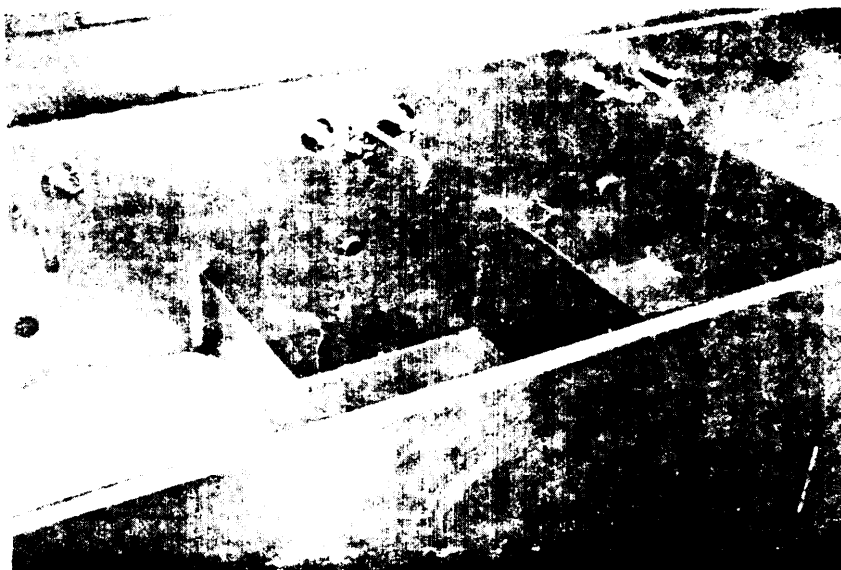
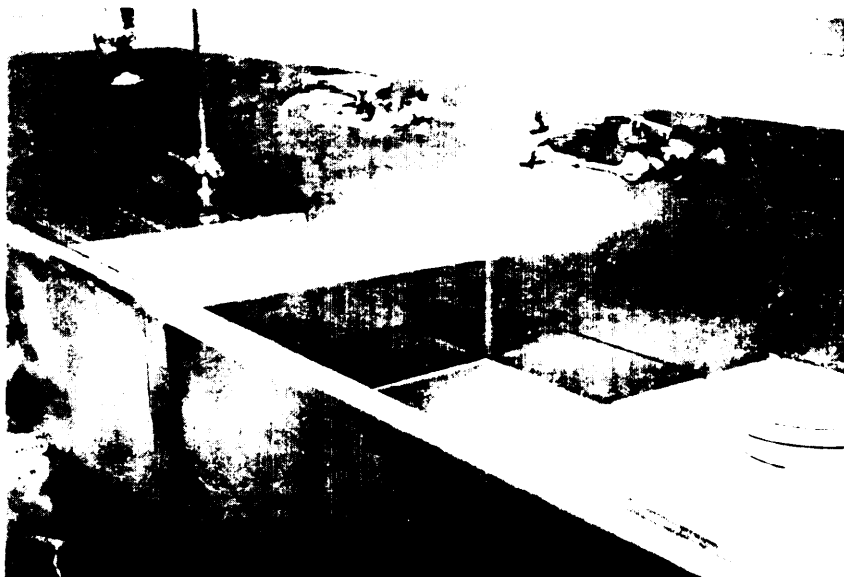

Figure 33 - Proper Hand Dishwashing Operation
Figure 34 - Proper Hand Dishwashing Operation
A. Operations.- The detergents used for hand dishwashing must be much milder than those used for machine dishwashing because operator's hands are immersed in the detergent solution. MACHINE WASHING COMPOUNDS SHOULD NEVER BE USED FOR HAND DISHWASHING OPERATIONS. They are strongly alkali and may cause skin irritations. The hand dishwashing compounds are generally high sudsing products. Sudsing is desirable in hand dishwashing but would interfere with the washing action in dishwashing machines. The washing temperature for hand dishwashing is much lower than that for machine dishwashing. The maximum temperature that can be endured by humans over an extended period is about 120°F. Proper scrapping and preflushing as previously described in machine dishwashing procedures are also important preliminary steps in hand dishwashing. Dishwashing Compound, Hand, FSN 7930-281-4731 (50 lb. sack), should be used for hand dishwashing operations. The proper and improper hand dishwashing operations are shown in Figures 33 through 40. The arrangement recommended for hand washing serving utensils and tableware items consists of three sinks, one warm wash (120°F to 125°F), one warm rinse (120°F to 140°F), and one hot sanitizing (180°F). Immersion in the third sink using wire baskets will be for 30 seconds at 180°F., with a thermometer indicator and booster heater provided. An alternative method is two sinks, one warm wash (120°F to 125°F) and one warm rinse (120°F to 140°F) followed by a final rinse in a fixed nozzle spray rinse cabinet (not shown in Figure 34) delivering 10 gallons per minute of 180°F rinse water at the manifold for 5 seconds or 5 gallons per minute for 10 seconds.